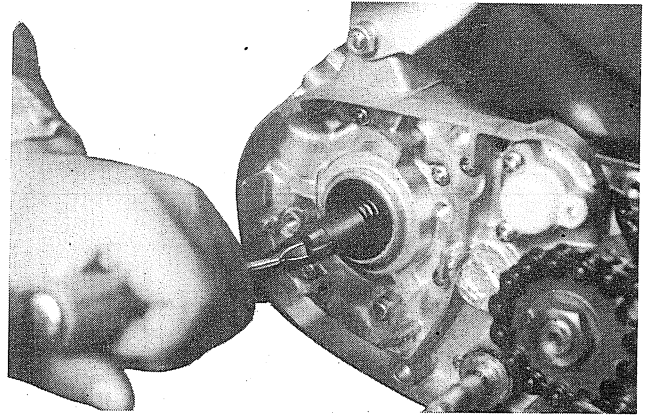

Fig. 3-1-10
7. Pry out the woodruff key (segment key) with a slot-head screwdriver. (Fig. 3-1-10)